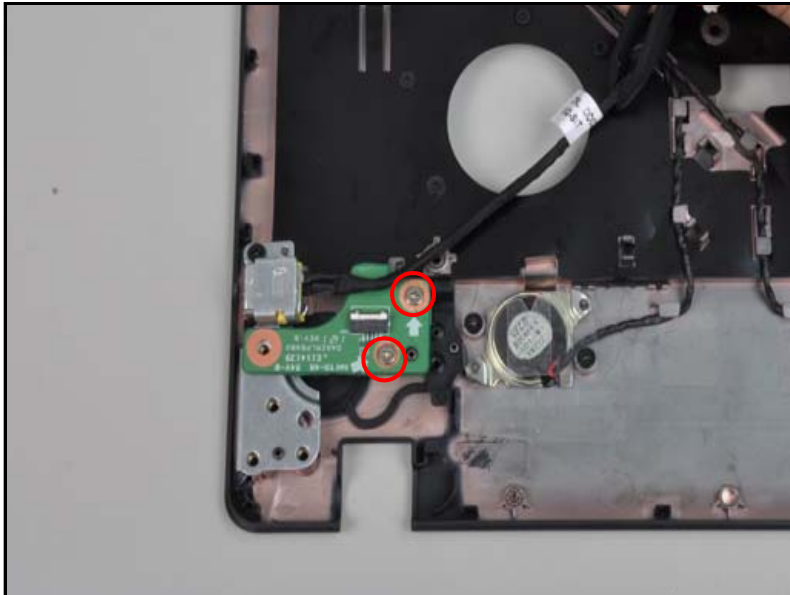

Figure 3-35. Power board screws removal
1. Remove the two (2) screws from the power board (Figure 3-35).
- 2. Install and secure two (2) screws to the power board. Refer to Figure 3-35